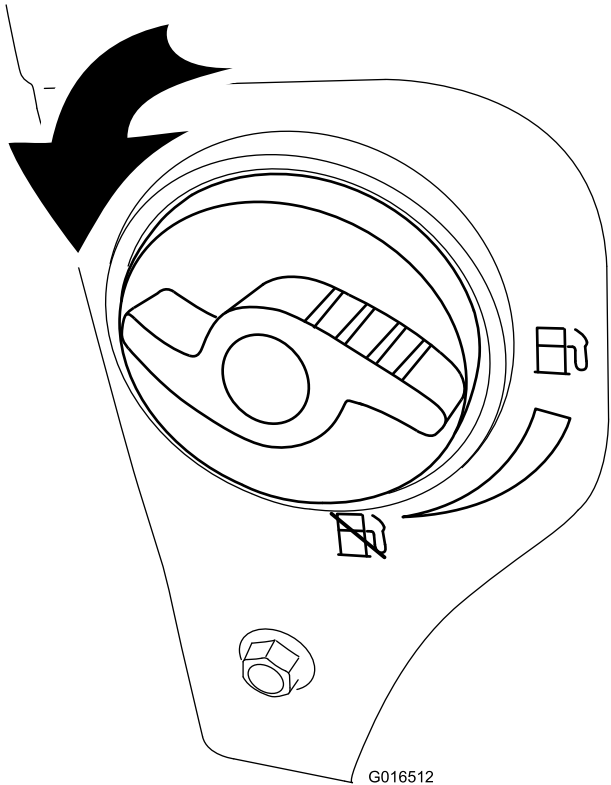

Figure 24
2. Turn the fuel-shutoff valve 1/4 turn counterclockwise to open it (Figure 24).